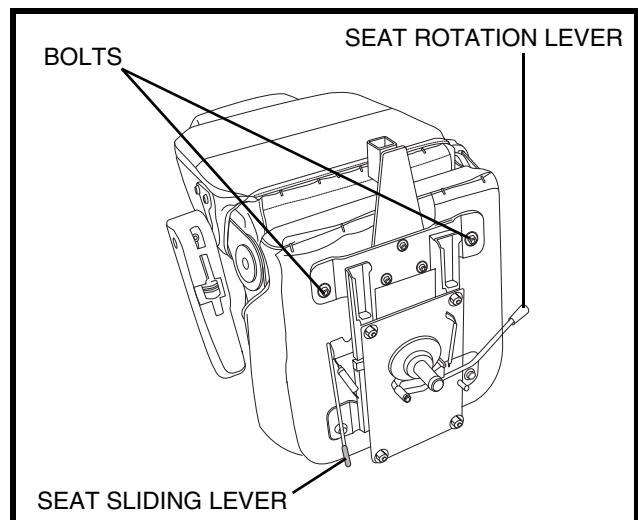

Figure 20. Seat Position Adjustments
1. Push forward on the seat rotation lever to disengage the seat. See figure 20.
1. Move the seat sliding lever located at the lower left side of the seat outward. See figure 20.
3. Use a wrench to remove the two rear bolts on the outermost part of the seat bottom. **See figure 20.**